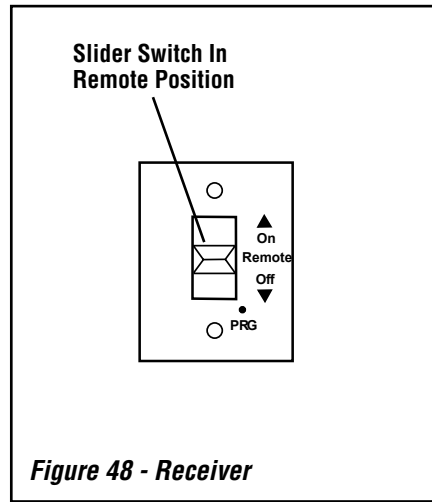

Figure 48 - Receiver
Place the ON/REMOTE/OFF switch in the REMOTE position (see **Figure 48** on **Page 37**). Insert the end of the paper clip (or other similar object) into the hole marked "PRG" on the receiver front cover. The control board, located in the fireplace, will "beep" three (3) times to indicate that it is ready to synchronize with a transmitter.